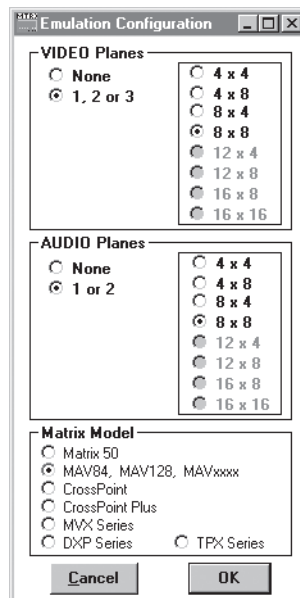

Figure 4-19 — Emulation mode configuration
5. Select 1, 2, or 3 as the number of video boards, 1 or 2 as the number of audio boards, and MAV 84, MAV 128, MAVxxx as the matrix model for which you are preparing a configuration. Click *Ok* (figure 4-19).